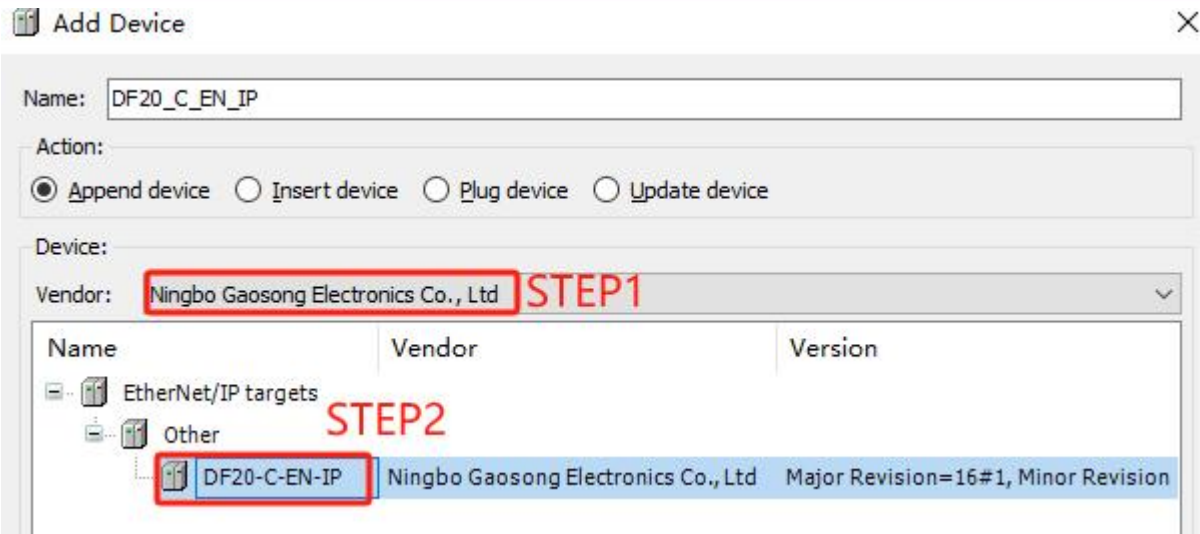

Figure 5-3-11
- As shown in Figure 5-3-11, browse to the device location and double-click to add the device.